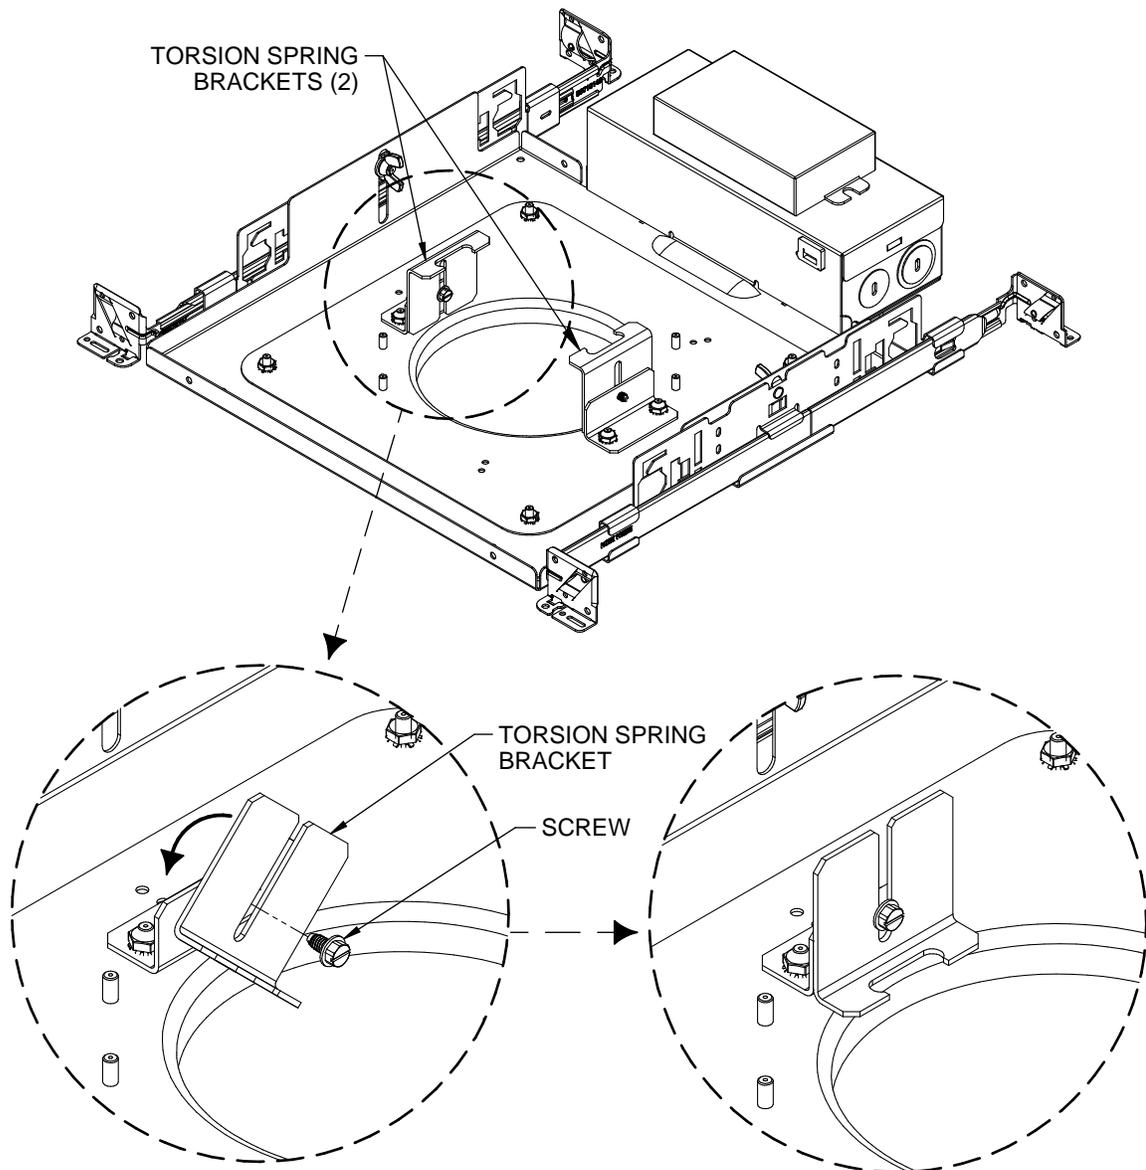

Figure 5
^^ To flip the (2) torsion spring brackets on frame as may be required for proper SCA installation see instructions and "Figure 5" below.
- a. Remove the screw holding the torsion spring bracket as shown in "Figure 5"
- b. Rotate torsion spring bracket 90 degrees and re-position as shown in "Figure 5"
- c. Re-install the screw to hold the torsion spring bracket in place as shown in "Figure 5"